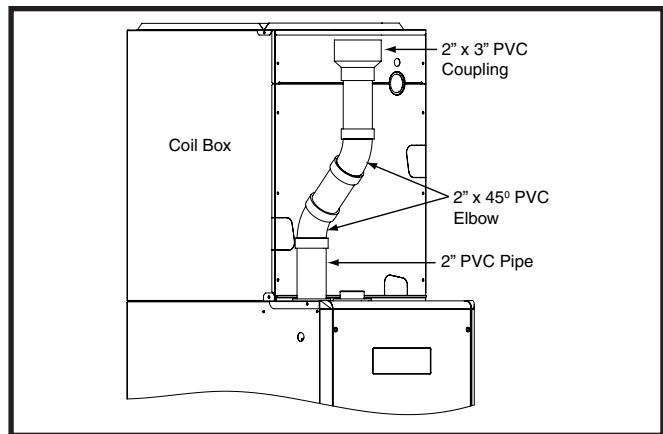

Figure 20. Optional PVC Pipe Installation
- If the size of the PVC flue needs to be increased from 2" to 3", two, 2" x 45° PVC elbows may be used to achieve the clearances needed between the coil box and the 2" x 3" coupling. See Figure 20.